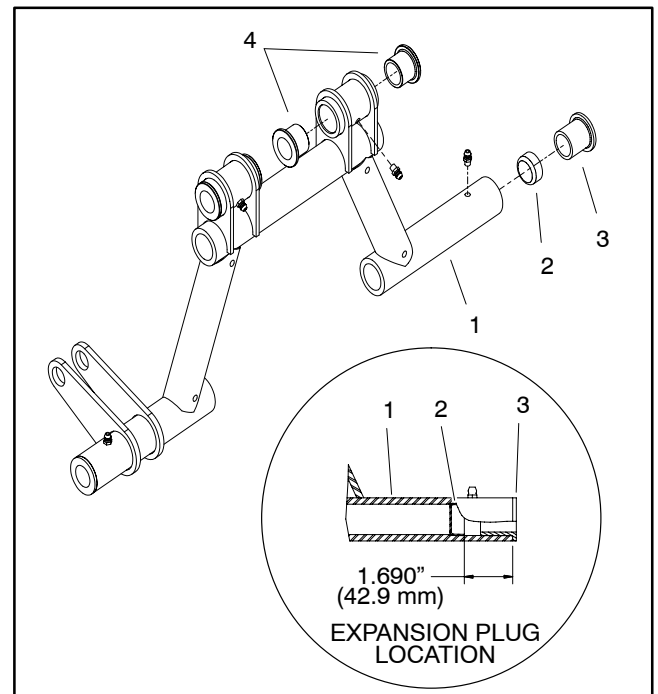

Figure 11
7. If required, remove bushing(s) from hitch tube (Fig. 11) and/or roller tube.
1. If expansion plug was removed from hitch tube, press plug into tube so outer edge of plug is 1.690" (42.9 mm) from outer surface of hitch tube (Fig. 11).